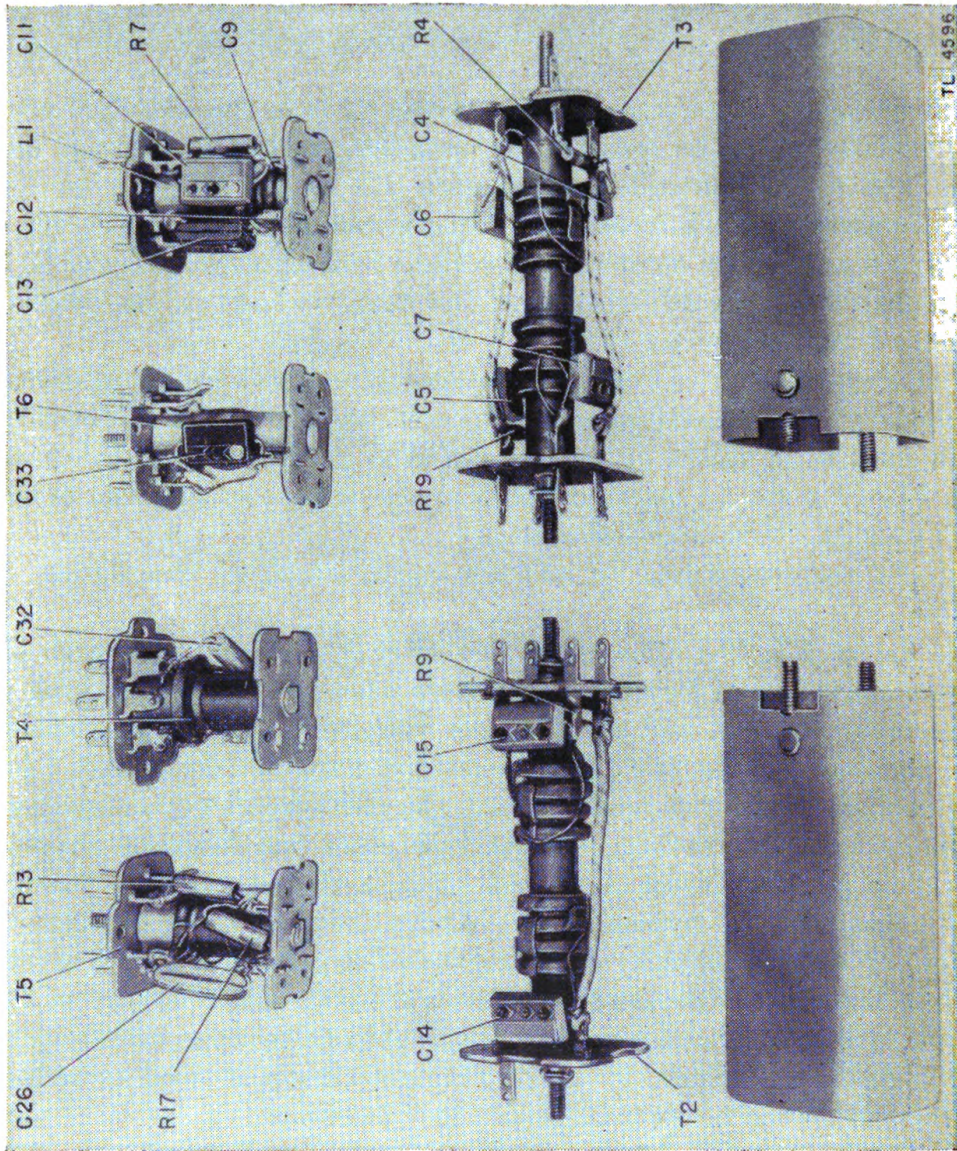

FIGURE 18.—I-f transformers and r-f and c-w coil assemblies.
h. I-f transformers and r-f and c-w coil assemblies.—See figures 18 and 19.